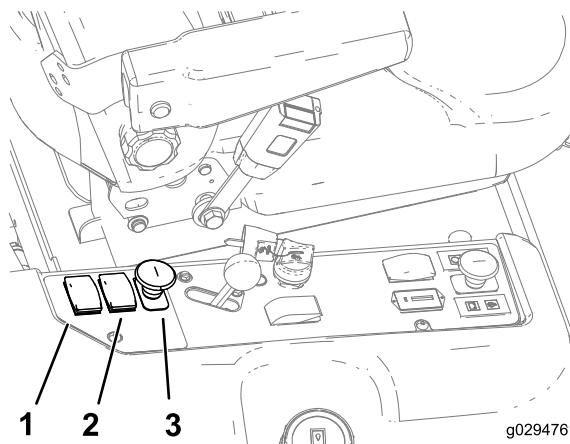

Figure 15
6. Push the lift switch to raise the hopper (Figure 15).
7. Push the door switch to open the door on the hopper (Figure 15).